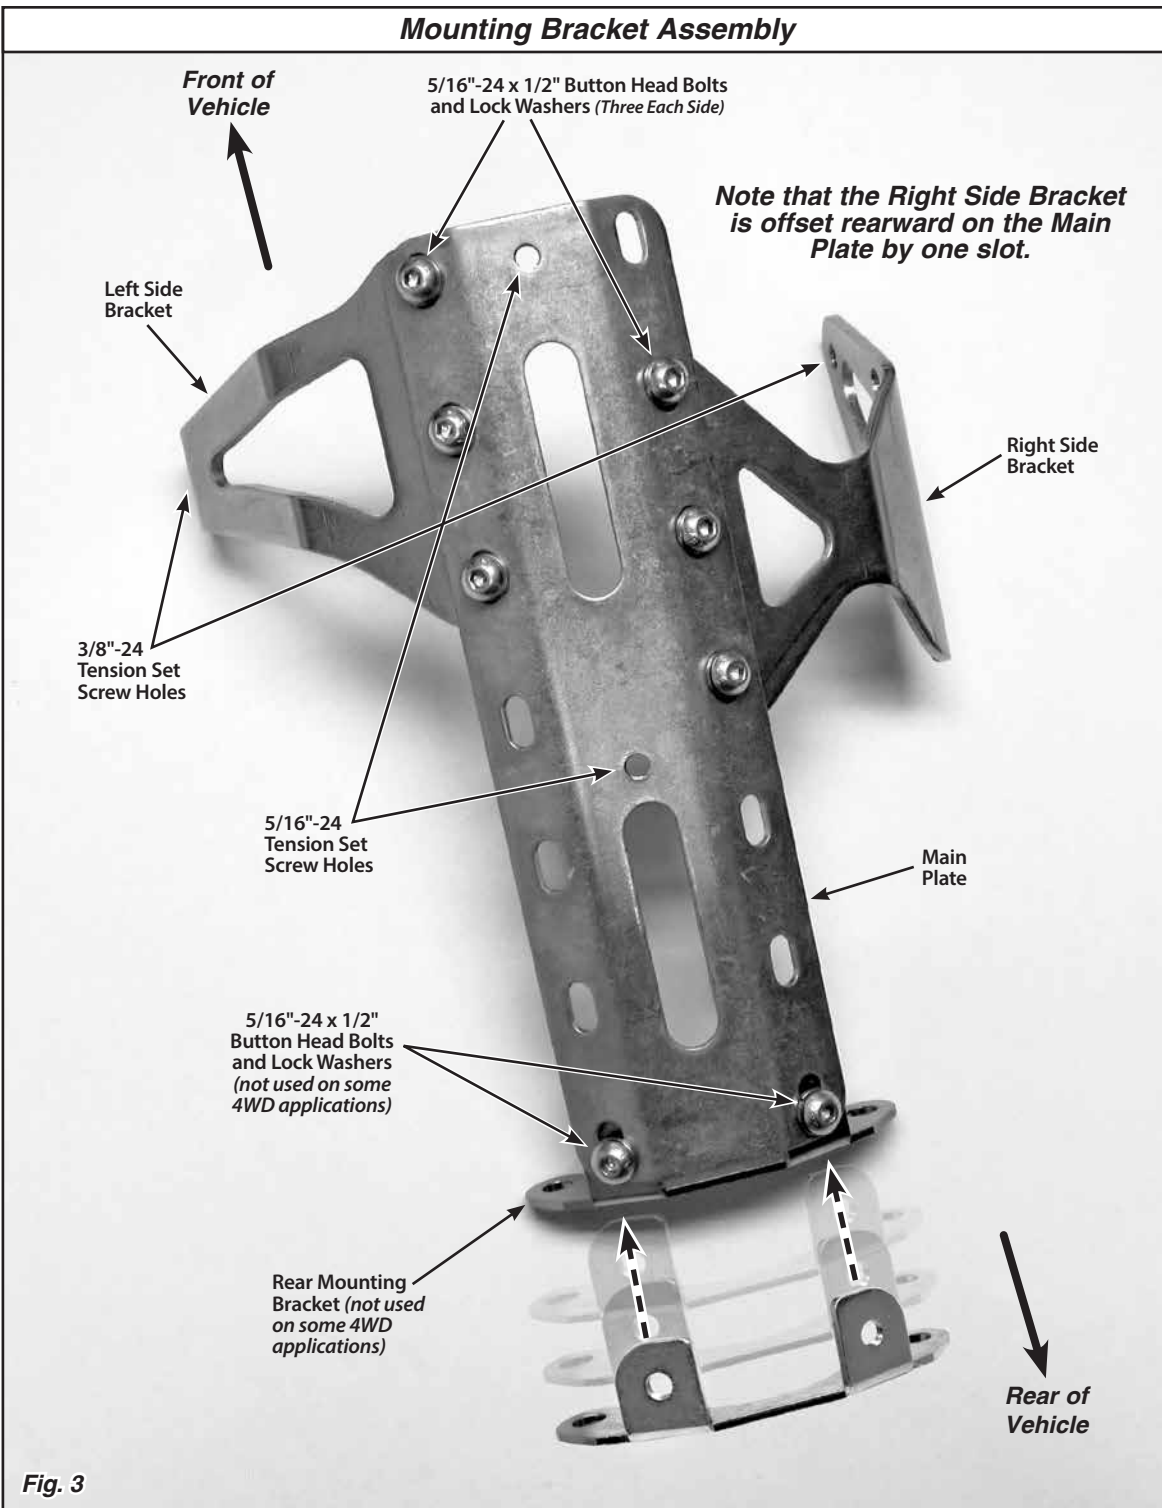

Fig. 3
The left side bracket and right side bracket bolt directly to the main plate. **NOTE: The right side bracket will be offset rearward on the main plate by one slot, compared to the left side bracket.** Attach the side brackets to the underside of the main plate as shown in **Fig. 3**, using three 5/16"-24 x 1/2" button head bolts and lock washers on each side. **DO NOT TIGHTEN AT THIS TIME.**
Step 4: Attach the rear mounting bracket to the underside of the main plate with the bracket ears pointing to the front of the transmission (toward the engine) as shown in **Fig. 3**, using two 5/16"-24 x 1/2" button head bolts and lock washers. **DO NOT TIGHTEN AT THIS TIME.**